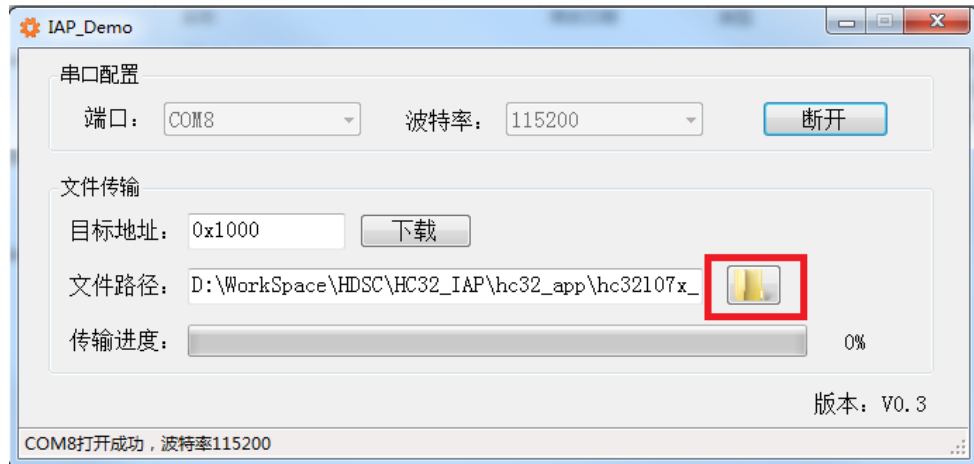

Figure 7 Load bin file
- 6) Select the bin file and click the button in the red box in Figure 7 to load the bin file of the APP program. The configuration of the bin file generated by Keil MDK is in Project->Options for Target->User->After Build/Rebuild of the IDE, and the configuration of the bin file generated by IAR is in Project->Options->Output Converter of the IDE. For more detailed configuration content, see each IDE project of the APP program.